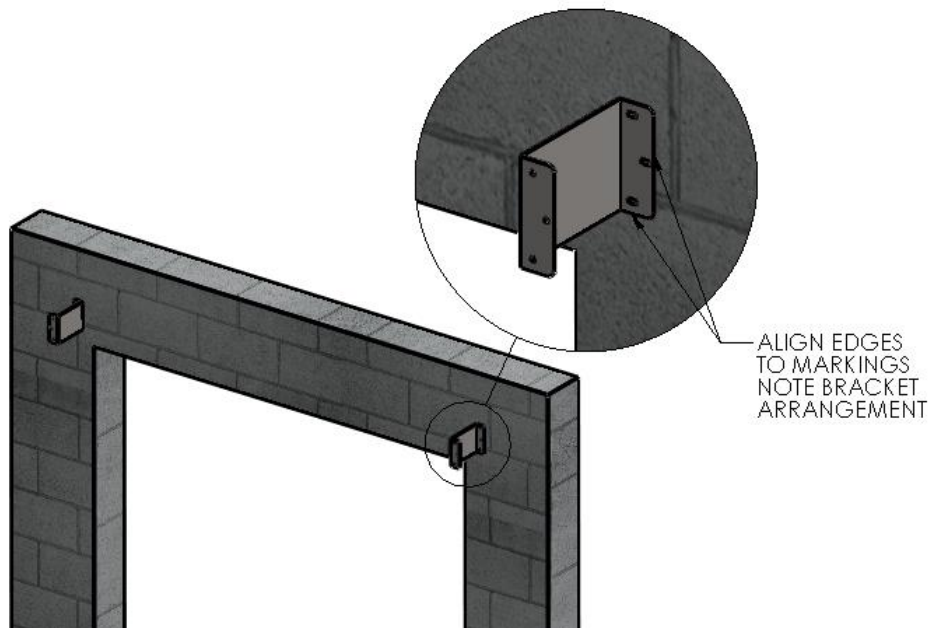

Figure 10 LOCATE/INSTALL HEADER OFFSET MOUNTING BRACKET
1. Using the wall end of one of the Header Projection Mount Brackets, trace the insides of its oval mounting slots onto the wall mount surface (a Sharpe permanent marker works great for this). Be sure that its flange is facing outward, that its bottom edge is on the height line, and that the outer edge is on your vertical overall width line. (Figure 10 LOCATE/INSTALL HEADER OFFSET MOUNTING BRACKET)
2. Pre-drill through the centers of the traced locations for the mounting hardware, three (3) pilot holes on each side. Using adequate mounting screws or bolts (depending on your building/surface material) attach the header offset brackets to each side of the opening. (Figure 10 LOCATE/INSTALL HEADER OFFSET MOUNTING BRACKET)